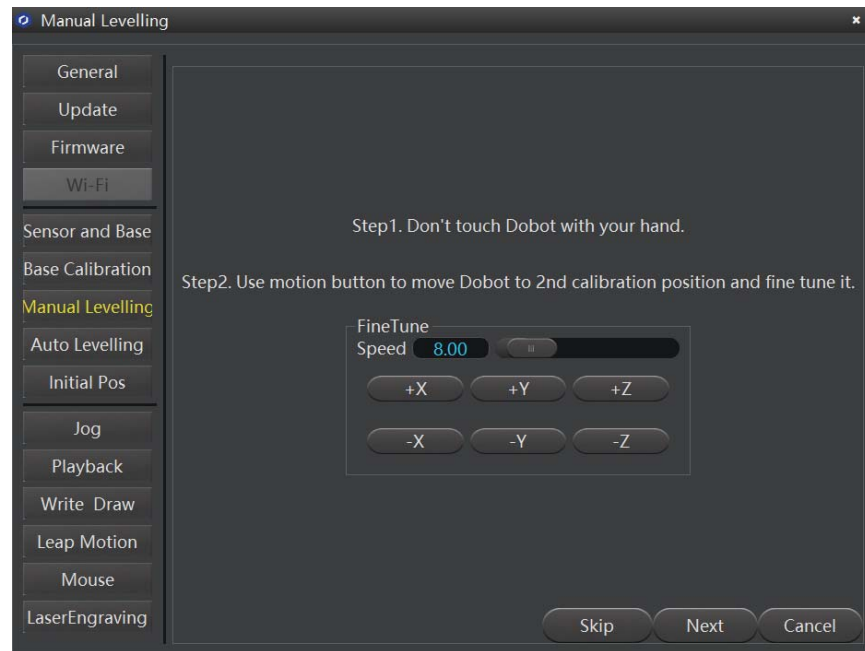
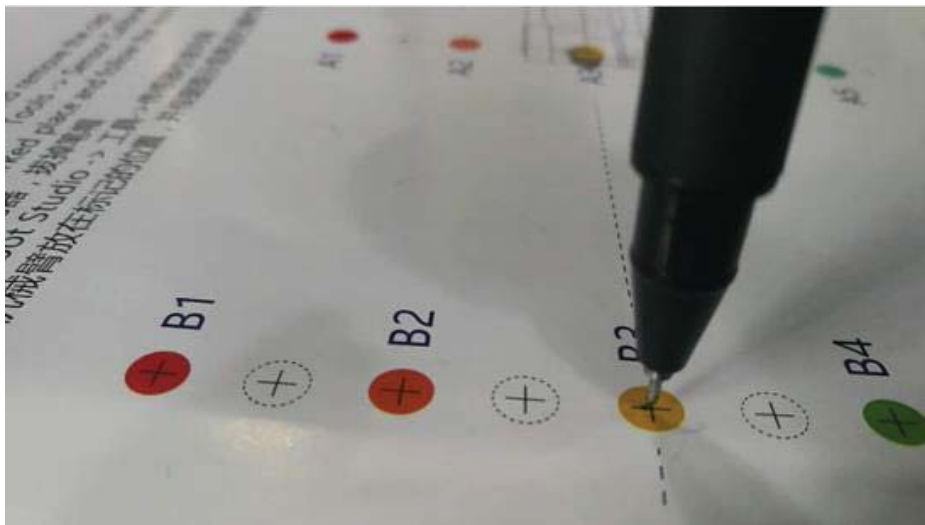

Figure 5.163 Fine-tune page
Figure 5.164 Nib position on the second calibrated point
Step 6 Click **Next** and follow the instructions on the **Manual Levelling** page (as shown in Figure 5.163) to move Dobot Magician to make the nib in the center of the second calibrated point. If the calibrated point is **B3** on the calibration board, as shown in Figure 5.164.